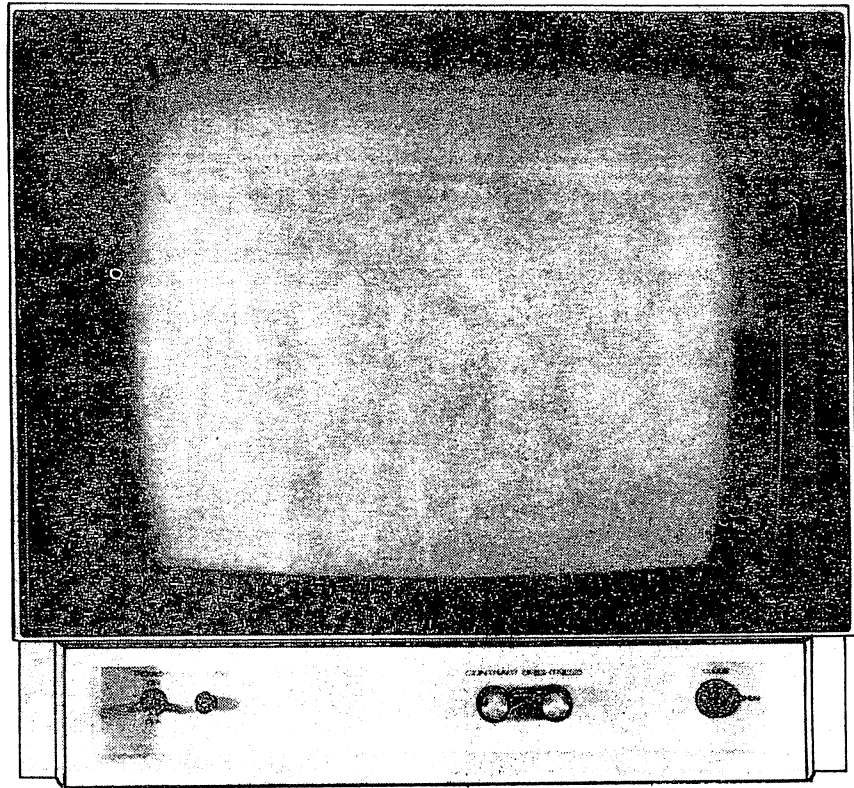

Figure 3-1 Front Panel
3.1.1 Front Panel (Figure 3-1)